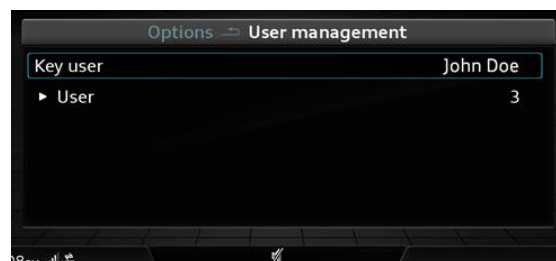

Figure 4. Key User assigned with three secondary users.
1. Verify the customer’s name is showing as an active Key User of the vehicle. In the MMI, navigate to *MENU >> Audi connect*, then the right option and choose *Audi connect user management*. If the customer is a Key User, his or her myAudi registered name will be listed (Figure 4).